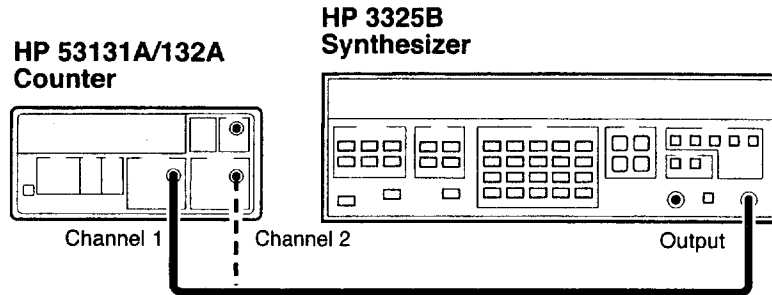

Figure 1-6. Trigger Level Test Setup
- 1 Connect the output of the HP 3325B to Channel 1 of the Counter as shown in Figure 1-6.